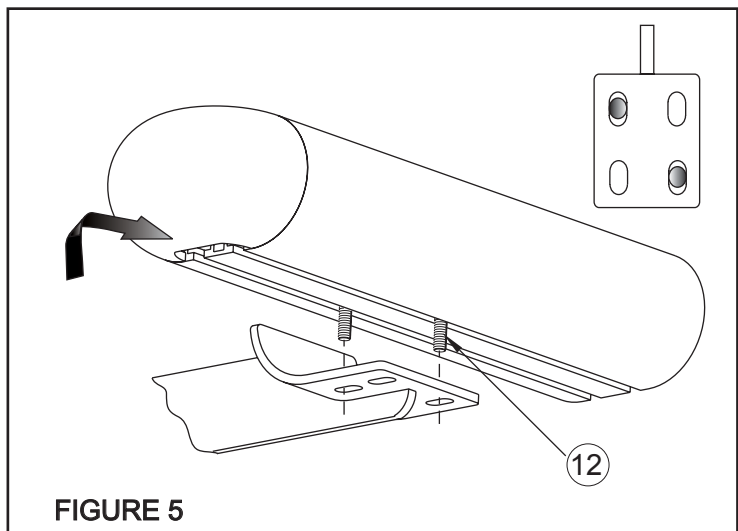

FIGURE 5
- STEP 6.** Slide t-head bolts on step bar as shown (2 per slot, 4 per bar). Place step bar on saddle with long step pad forward and end cap screw facing inward. Assemble with 1/4" fasteners. **SEE FIGURES 5 AND 6.** Repeat for opposite side.